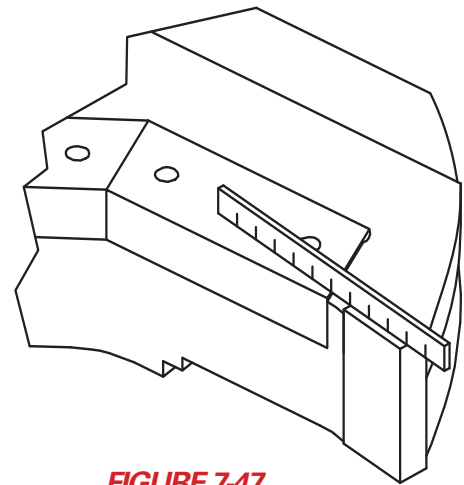

FIGURE 7-47
4. Place the new tip into the seat. Use a straight-edge to position the tip before tacking it into place. Place the straightedge against the face of the secondary blade and maintain the alignment to the side edge of the replaceable tip (see Figure 7-47).